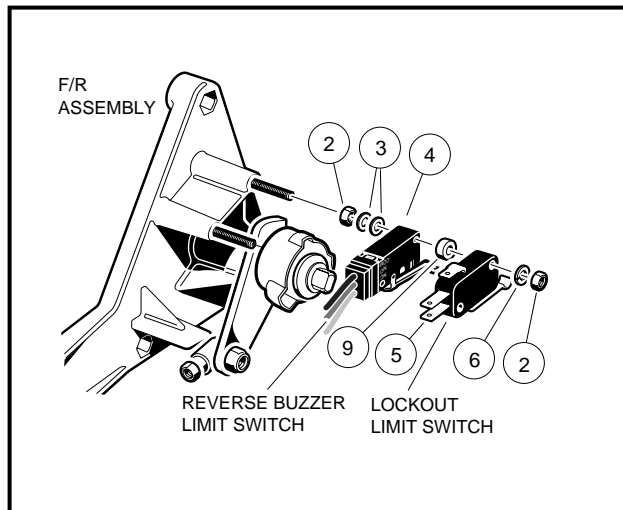

Figure 12-20 Lockout Cam & Reverse Buzzer Limit Switches
2. Disconnect the wires from the lockout cam limit switch (5) located on the back of the Forward/Reverse shifter assembly (**Figure 12-20, Page 12-19**).
3. Remove two nuts (2) and washers (6) from the lockout cam limit switch (5) and slide the lockout cam limit switch off of the screws.
1. Install the lockout cam limit switch (5) with two washers (6) and two nuts (2) (**Figure 12-20, Page 12-19**). Tighten to 5 in-lb (0.6 N·m). Place the Forward/Reverse handle in REVERSE to make sure that both switches actuate. **See following CAUTION.**
2. Disconnect the wires from the reverse buzzer limit switch (4) located on the back of the Forward/Reverse assembly (**Figure 12-20, Page 12-19**).
3. Remove the nuts (2) and washers (6) from the lockout cam limit switch (5) and slide the lockout cam limit switch off of the screws. Do not disconnect the wires.
4. Remove the spacers (9) from the reverse buzzer limit switch (4) and slide the reverse buzzer limit switch off the screws.
4. Connect the orange wire to the common (COM) terminal and the red/white wire to the normally open (NO) terminal of the reverse buzzer limit switch (4) (**Figure 12-20, Page 12-19**).